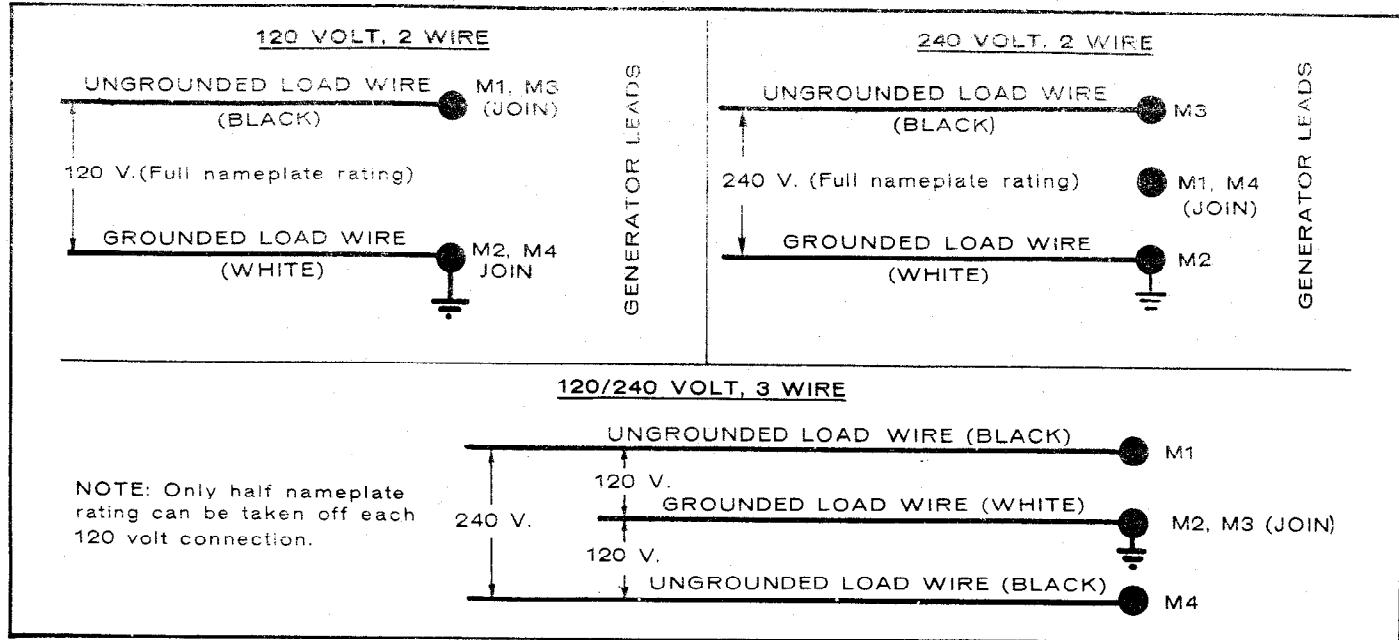

FIGURE 4. LOAD CONNECTIONS
The set nameplate shows the electrical output rating of the set in watts, volts and cycles. The wiring diagram shows the electrical circuits and connections necessary for the available output voltage. Also see Figure 4.
**Voltage Selection on Reconnectible Single Phase Generators:** These units are reconnectible for use as 120/240 volt, 3 wire; 120 volt, 2 wire; or a 240 volt, 2 wire power source (see Figure 4). Use the connection for two wire service when one load exceeds 1/2 the rated capacity. Balance the load when connecting for three-wire service.